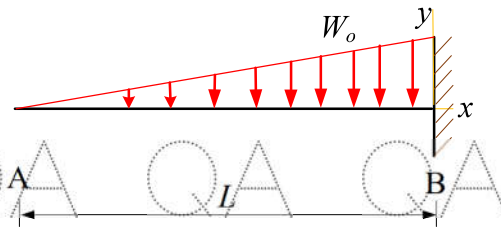

Figure. 8
8. Determine the deflection at the free end for the cantilever as shown in Figure. 8 using double-integration method. Assume EI to be constant. [10]